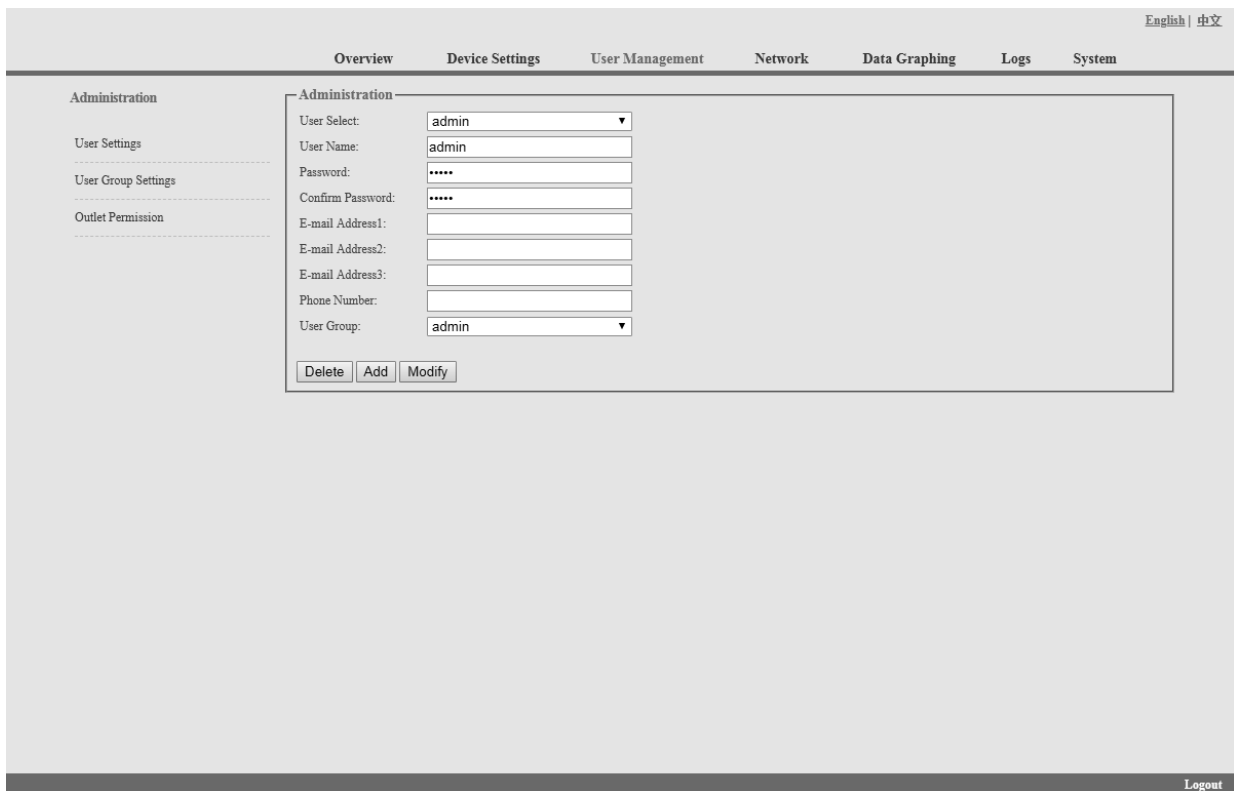

Figure 1-4
3.2.1.3. User Management: Click the User Management form the navigation bar as Figure 1-4 to manage the user, user group and user access rights
- A. User Settings: Click the User settings from the User Management menu as figure 1-4